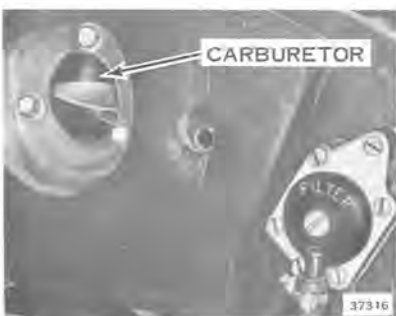

Figure 6-3
3. Remove (3) nuts supporting carburetor to air duct. See Figure 6-3.